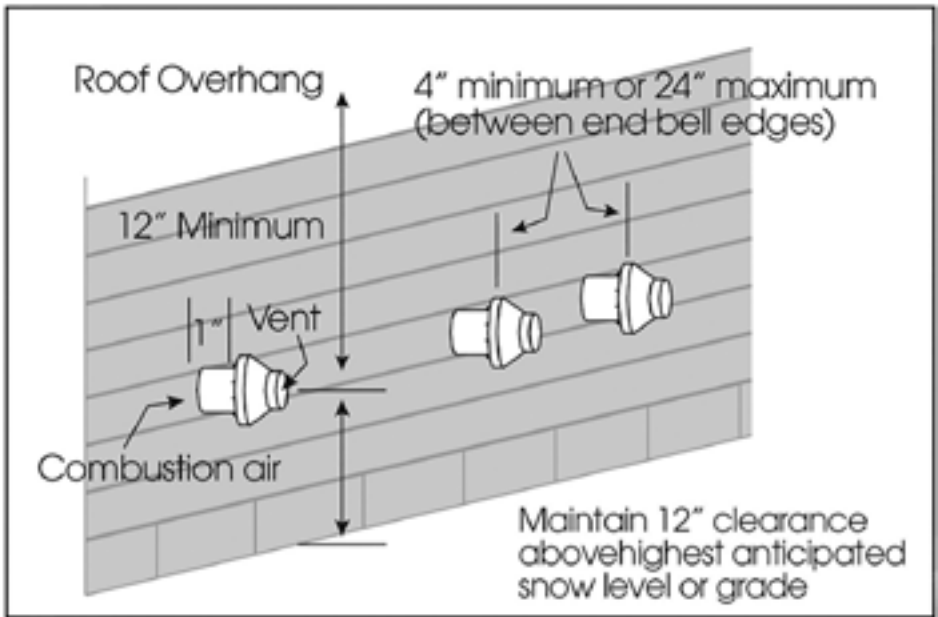

Figure 6: Sidewall Termination for Multiple Concentric Vents (Horizontal)
- Multiple Concentric Vent kits may be installed vertically following the same clearances between vent outlets as shown in Figure 6.